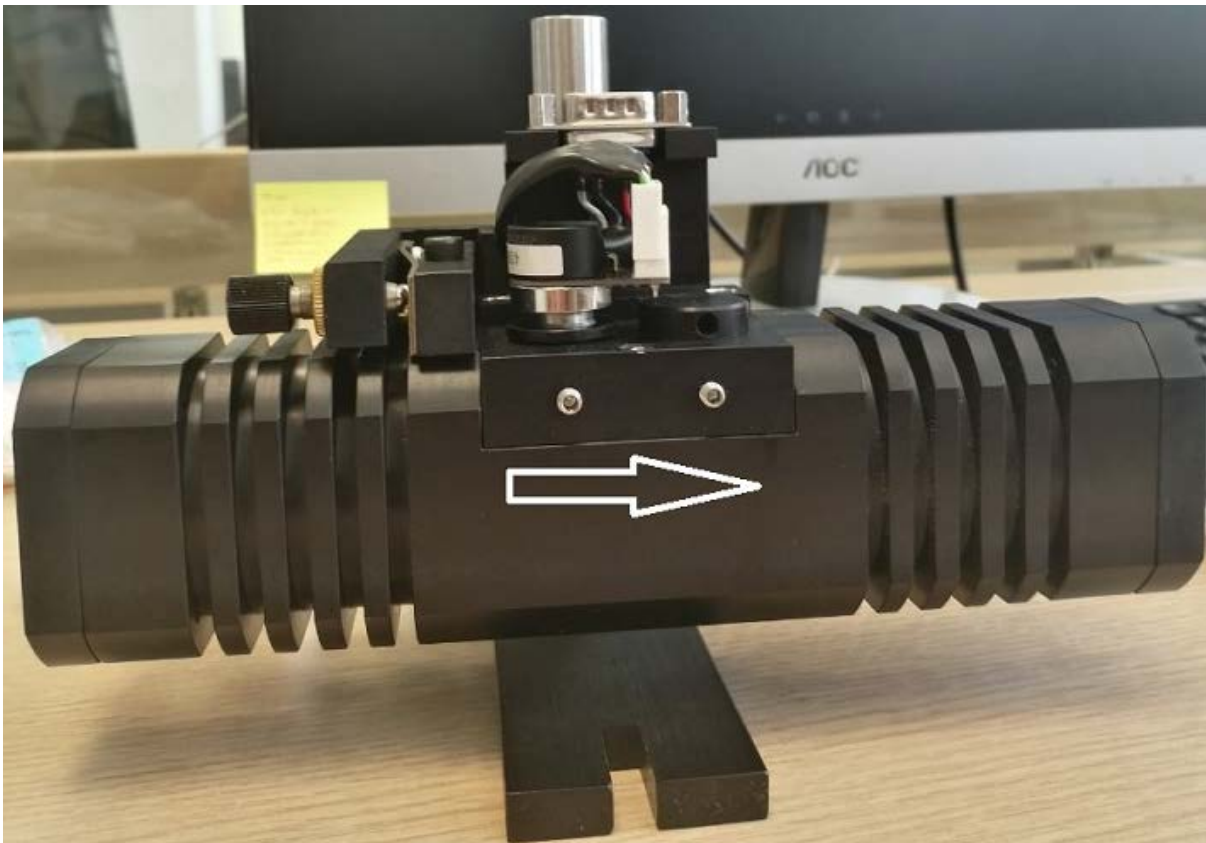

Fig.1 Laser shutter photo.
4. Switch on power supply of controller. When the power supply is switched-on, the galvo scanner mirror takes position parallel to optical axis (Fig.1). It corresponds to low TTL level and position "beam opened". Under good alignment of system You will see a 100% visible beam throw over the output hole of shutter.